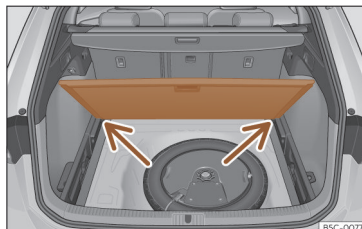

Fig. 180 Variable boot floor: tilted position.
- Rest the floor on its housings >>> **Fig. 180** (arrows).